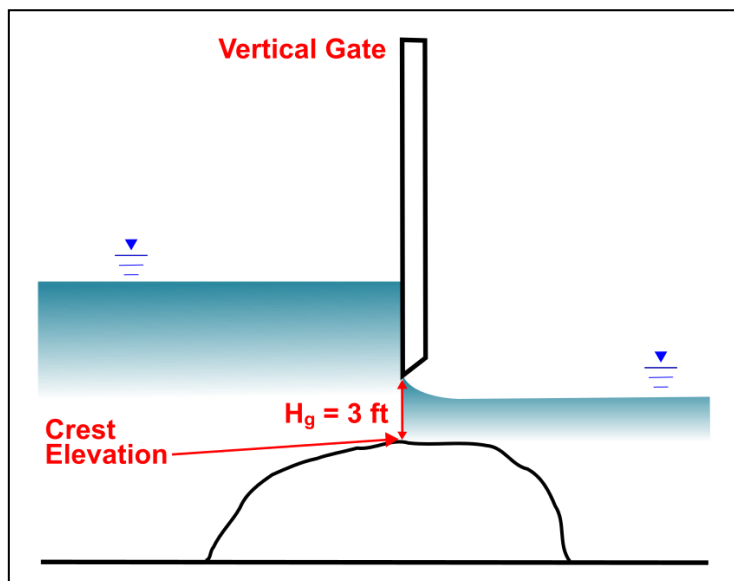

Figure 4 Height of gate opening
8. Enter “3” in the *Height of gate opening* field. This represents the opening measured vertically from the base of the structure to the top of the gate opening as shown in Figure 4.